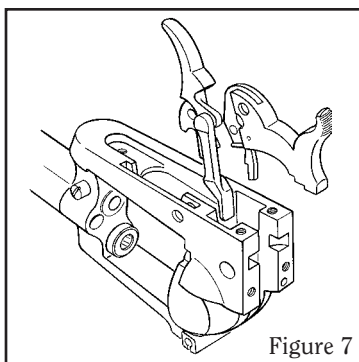

Figure 7
8. Remove the hammer pivot. Then remove the hammer/pawl assembly and the trigger/transfer bar assembly. (Note that the hammer is attached to the pawl and the transfer bar is attached to the trigger. See Figure 7).
1. Assemble pawl to hammer and transfer bar to trigger as shown in Figure 7. Partially insert hammer/pawl assembly in its recess in the frame. Insert trigger/transfer bar assembly in its slot in the frame. Then simultaneously complete insertion of the two assemblies into the frame.